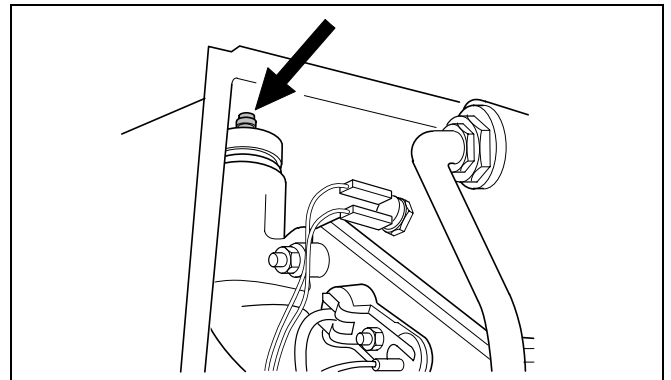

fig. 27 Automatic air release valve
- Open the protective cap on the automatic air release valve one full turn (fig. 27).